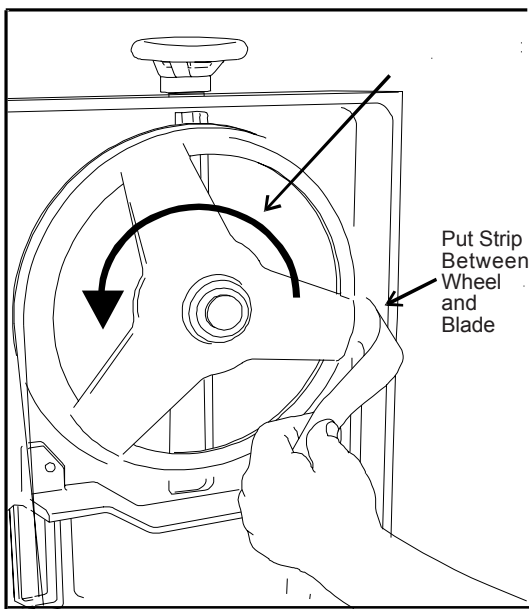

Figure 13: Checking blade-to-wheel clearance using paper strips
8. Turn the single hex adjustment screw to stop the motion of the blade on the wheel as it gets closer to the wheel shoulder. Put a 6-inch length of paper between the blade and the wheel as shown in figure 13. The paper should not be cut as it passes between the wheel shoulder and blade.